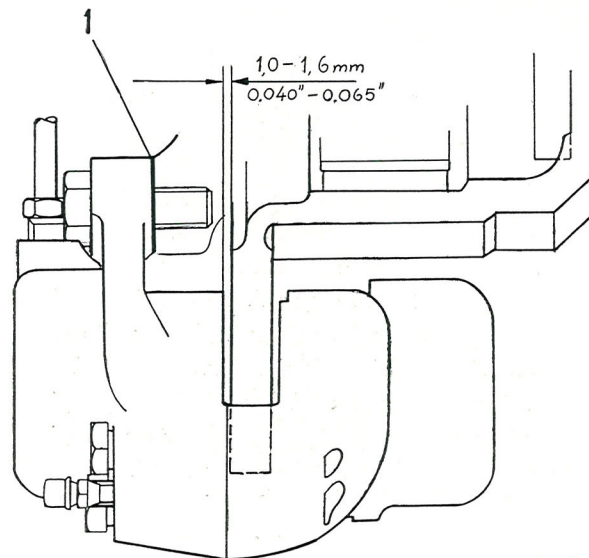

Fig. 4-121. Clearance between brake caliper and disc
5. Fit the brake discs and the brake calipers. N.B. There should be a clearance of 1.0—1.6 mm (0.040"—0.065") between the inner edge of the brake disc and the inner edge of the brake caliper. On the right-hand side, this clearance is altered by adjusting the axial play of the drive shaft. The clearance should, therefore, be checked and, if necessary, adjusted when working with the drive shaft on the right-hand side. The clearance is adjusted with shims, see Fig. 4-121, which are available in thicknesses of 0.6, 1.2 and 1.8 mm (0.024, 0.048 and 0.072").